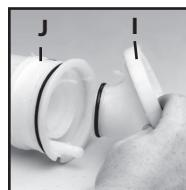

Figure 7
- The pump housing (I) is separated from the pressure cylinder (J) by pulling it off. Figure 7. The O-ring can then be replaced.